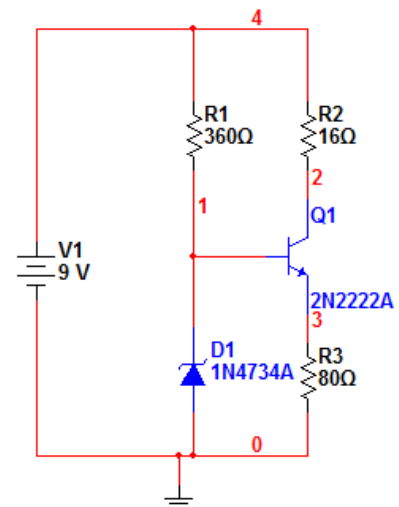

Figure 1: Driving a DC motor with an emitter follower.
**TASK 1a:** Simulate the emitter follower in Fig. 1.